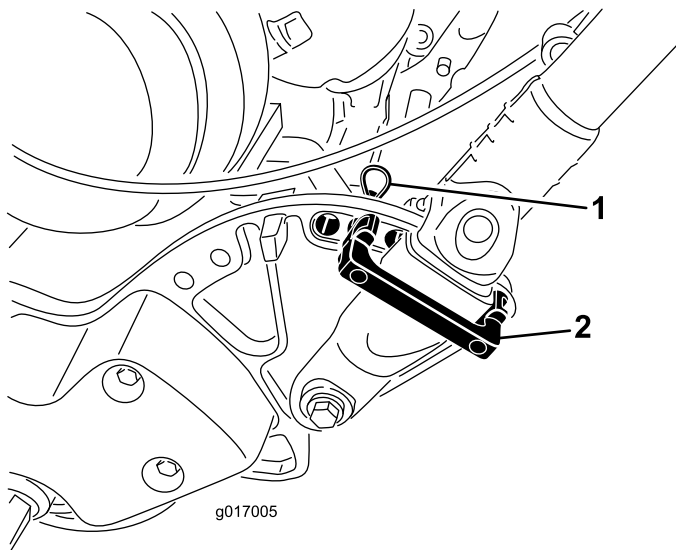

Figure 6
1. While supporting the handle, remove the cable ties securing the handle clamps to the side plates (Figure 6).
2. Pivot the handle to the desired operating position, insert a handle retainer over the handle clamp and into the matching holes in the side plate (Figure 6).
3. Secure the clamp in position with a hair pin cotter (Figure 6).